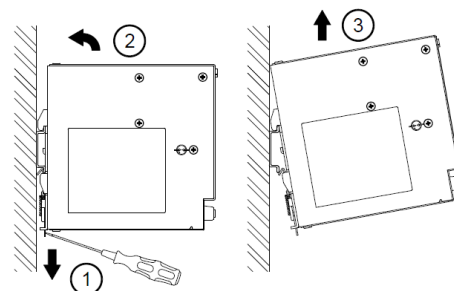

Fig. 6.2 Dismounting
5. To uninstall, pull or slide down the latch with screw driver as shown in Fig. 6.2. Then slide the power supply unit (PSU) in the opposite direction, release the latch and pull out the power supply unit (PSU) from the rail.